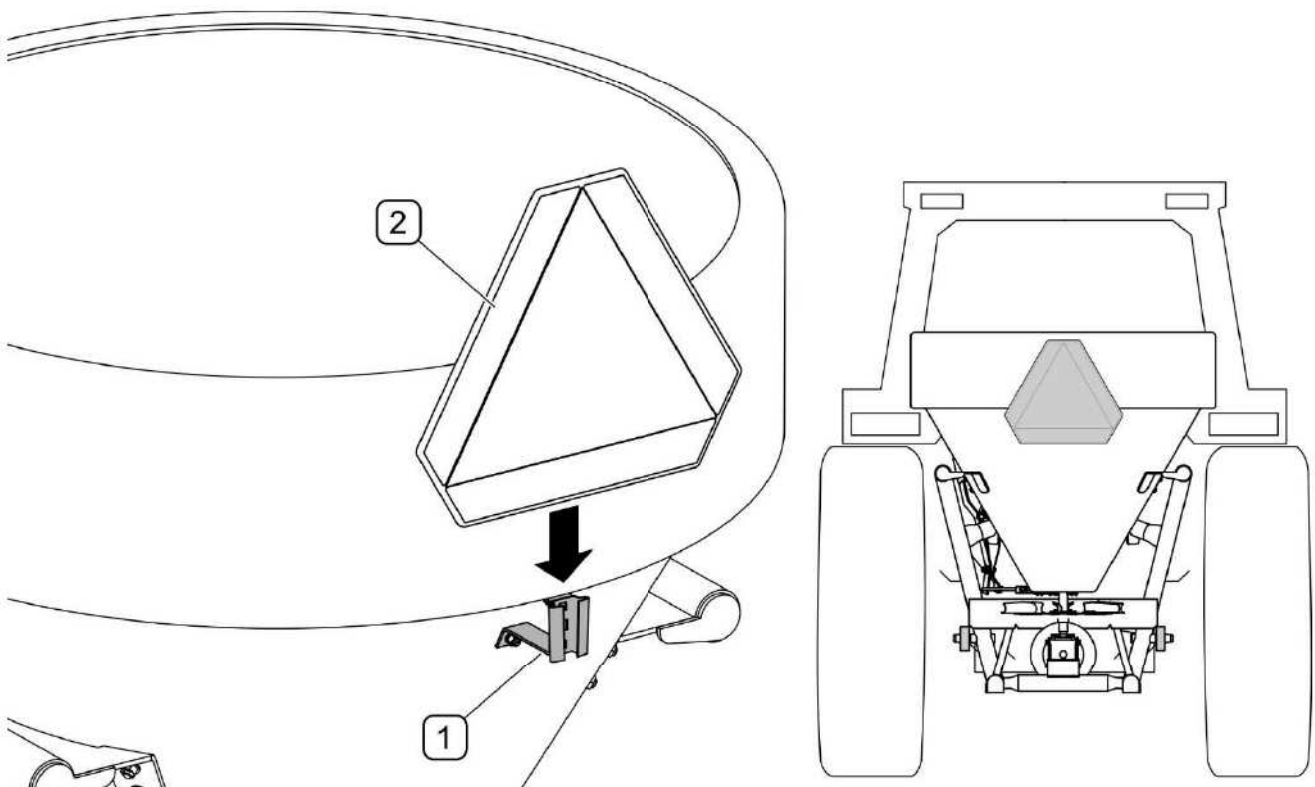

FIG. 4.10 Bracket of slow-moving vehicle warning sign (optional in FD1-M03L / M05L model)
- While driving on public roads, the machine should be marked with slow-moving vehicle warning sign placed on the rear of the machine (FIG. 4.10)